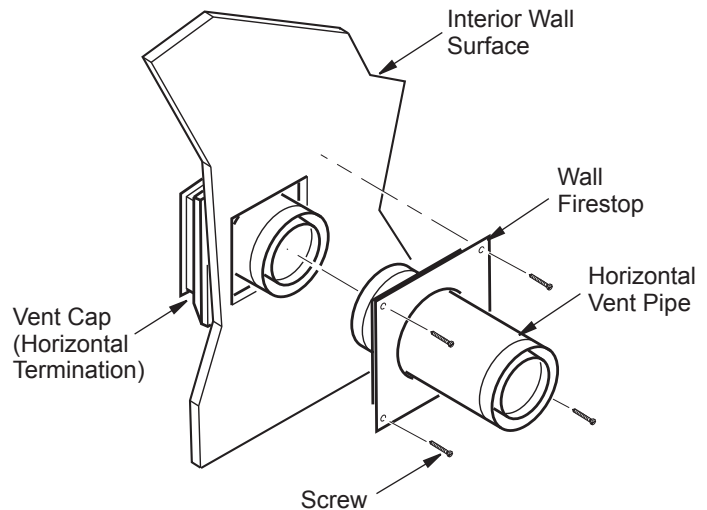
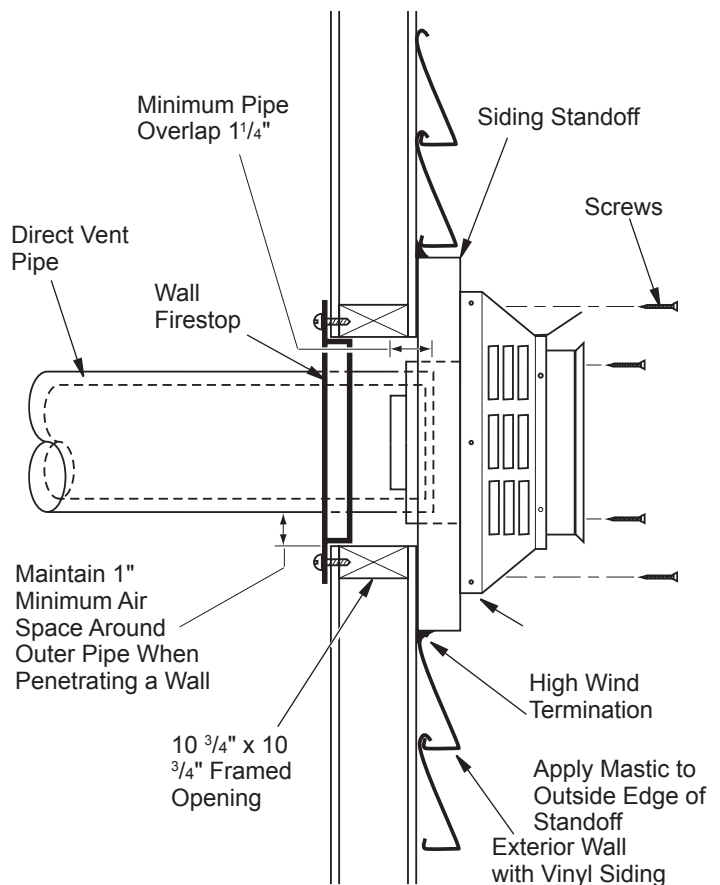

Figure 12 - Connecting Vent Cap with Horizontal Vent Pipe
Figure 13 - Typical Horizontal Termination Cap Mounting with Additional Siding Standoff Installed
7. **Combustible Exterior Wall Only:** Slide the wall firestop over the vent pipe before connecting horizontal run to vent cap (see Figure 12).
8. Carefully move fireplace, with vent assembly attached, toward wall and insert vent pipe into horizontal termination. The pipe overlap should be a minimum of 1 $\frac{1}{4}$ " (see Figure 13).
9. **Combustible Exterior Wall Only:** Slide wall firestop against interior wall surface and attach with screws provided (see Figure 12). See Figure 13 for horizontal termination details.